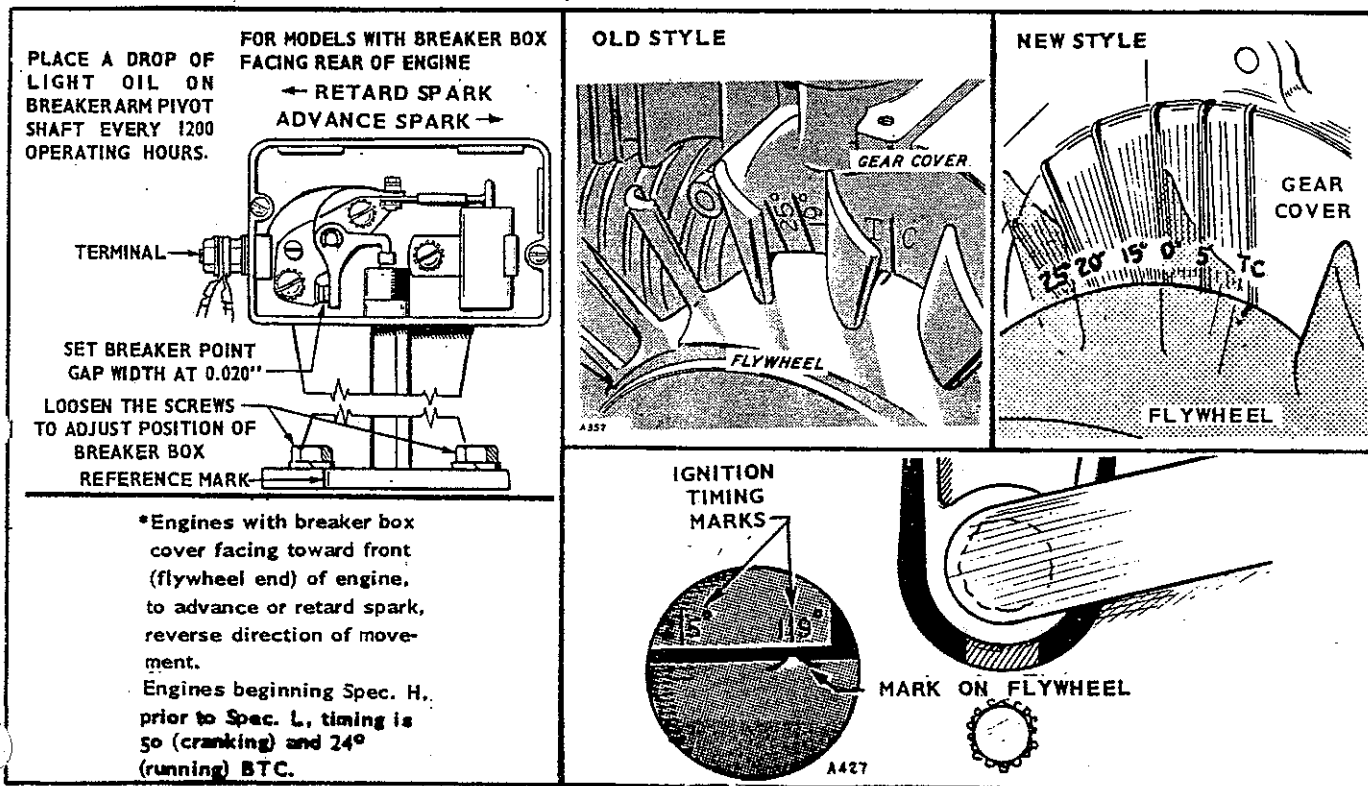

FIGURE 14. IGNITION TIMING
2. Slowly crank the engine by hand in the direction of crankshaft rotation until the witness mark on the flywheel and the TC mark on the gear cover are exactly in line (Figure 14).
5. Slowly turn the flywheel to the right and note whether the ignition points just separate when the flywheel aligns with the correct degree mark (19° or 25°) on the gear cover. Use a continuity light to determine the exact moment of point separation. If the marks align as the points break, timing is correct. If they do not, loosen the breaker box mounting screws and shift the whole breaker box assembly slightly toward the #1 cylinder to retard the timing (points breaking too soon), or shift it slightly away from the #1 cylinder to advance the timing (points not breaking soon enough). Tighten the breaker box mounting screws securely after making an adjustment (Figure 14).